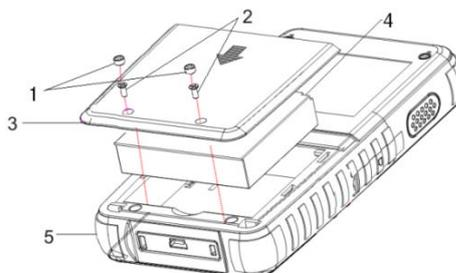

Figure 3-1 Installing Battery
2. Align the battery positive and negative connector while putting the battery pack into the battery slot. Push the battery cover into place and then snap back the screws and put back the screw hole plugs (as shown in Figure 3-1)